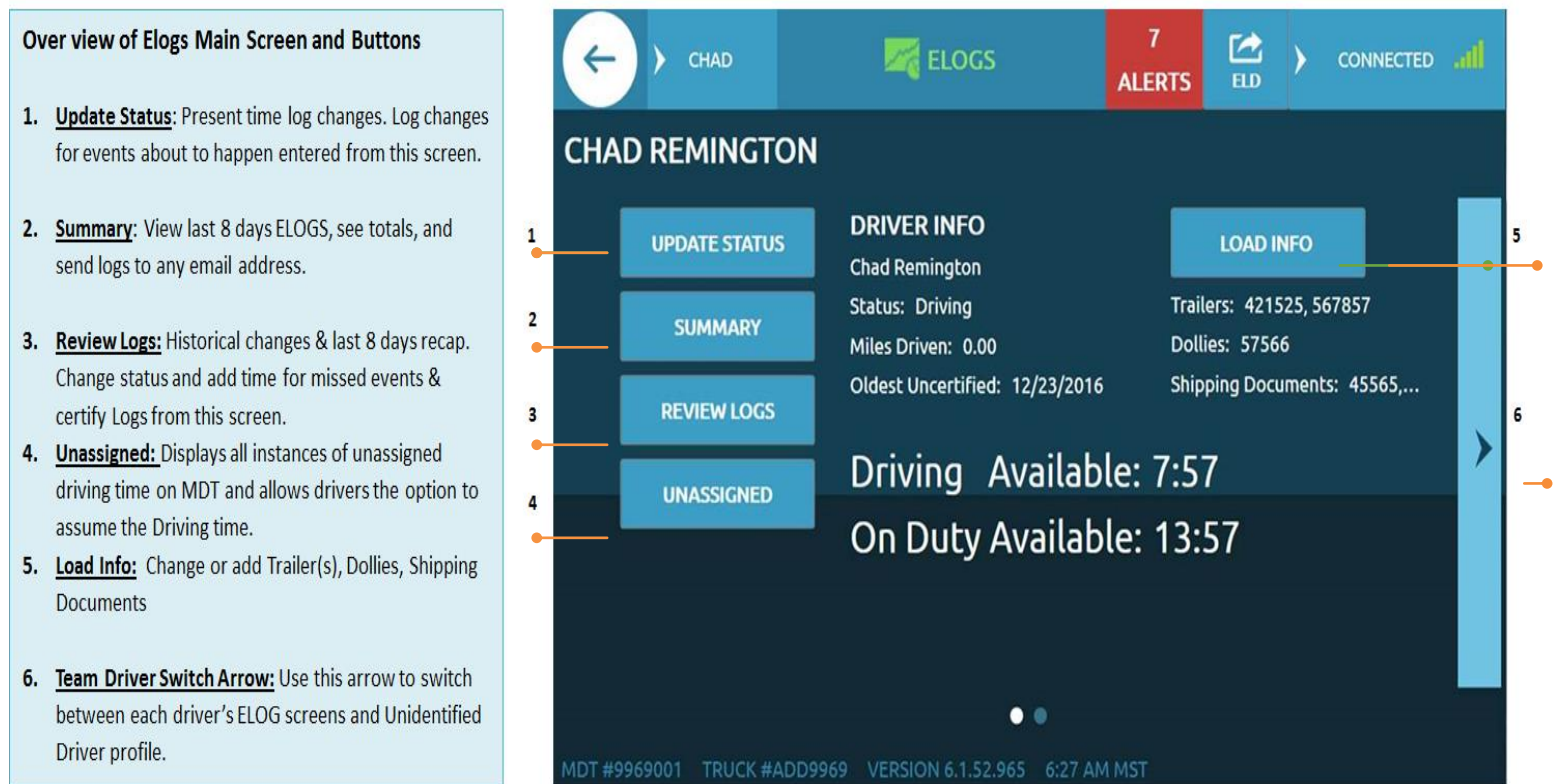

Figure 4.1
Below in Figure 4.1 is an overview of the Elogs Main Screen and the buttons that can be used to navigate to other areas within Elogs.
This screen is accessed by pressing the Update Status button displayed in Figure 4.1 above. On this screen the driver will have the ability to Change their Duty status and apply annotations or exceptions. The Start Date and Start Time will be automatically set to the current date and time of the Drivers home terminal.
- Touch Update Status Button (Figure 4.1) on the Main Elogs Screen
Press Review Logs (figure 4.1). The screen displays the driver's current log graph and the past 7 days log graphs. From this screen the driver is able to access features: Daily Header, Event List, New Status and Certify. You may edit a previous duty status or certify your previous day's logs. The Event List and Daily Header provide details pertaining to a particular day's log, the CMV that was operated, the Driver and the ELD. The log graph displays individual duty status boxes that correspond to the graph.
- To review the unassigned Driving time press the Unassigned button in (Fig 4.1)
The load Info button shown in Fig. 4.1 provides the driver with the ability to edit their current Trailer, Dollies or Shipping Document information. After pressing Load Info, the driver has the option of being able to select the type of configuration they are operating. Please note that for Straight Trucks and bobtail configurations please select the Truck and Single Trailer image.
- Touch Load Info (Fig. 4.1) on the ELOGS Main Screen